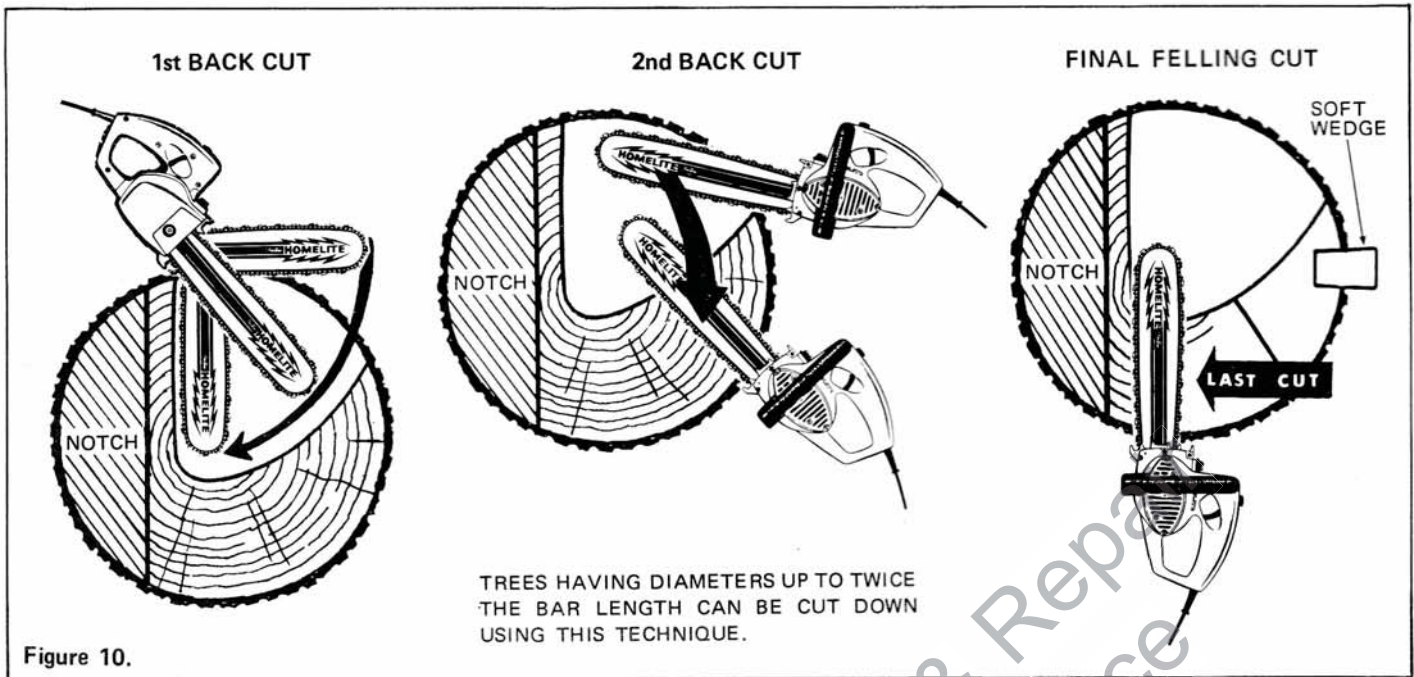

Figure 10.
- As illustrated in Figure 10, it is possible to cut trees up to nearly twice the usable length of the saw blade, by notching